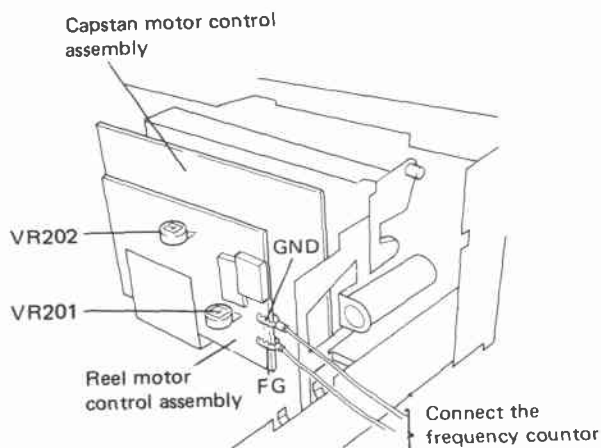

Fig. 11-5 FF/REW Rotating speed adjustment
1. Connect the frequency counter between FG of reel motor control assembly and GND (Fig. 11-5).
3. Adjust VR201 so that the take-up torque is $45 \pm 5 \text{ g-cm}$ (Fig. 11-5).